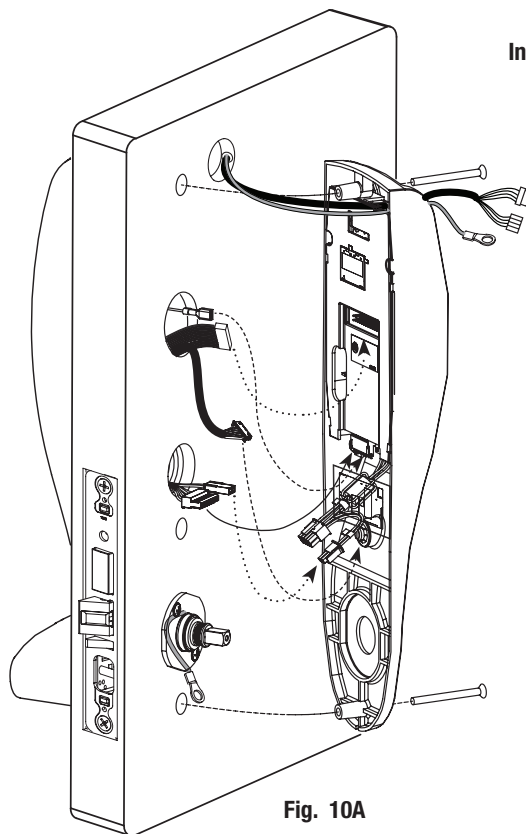

Fig. 10A
1. Gently fold the excess ribbon connector and ground wire into the top hole, JST connectors and ground wire into offset middle hole, and mortise and AX/DPS wires into bottom hole, being careful not to pinch wires (Fig. 10A).